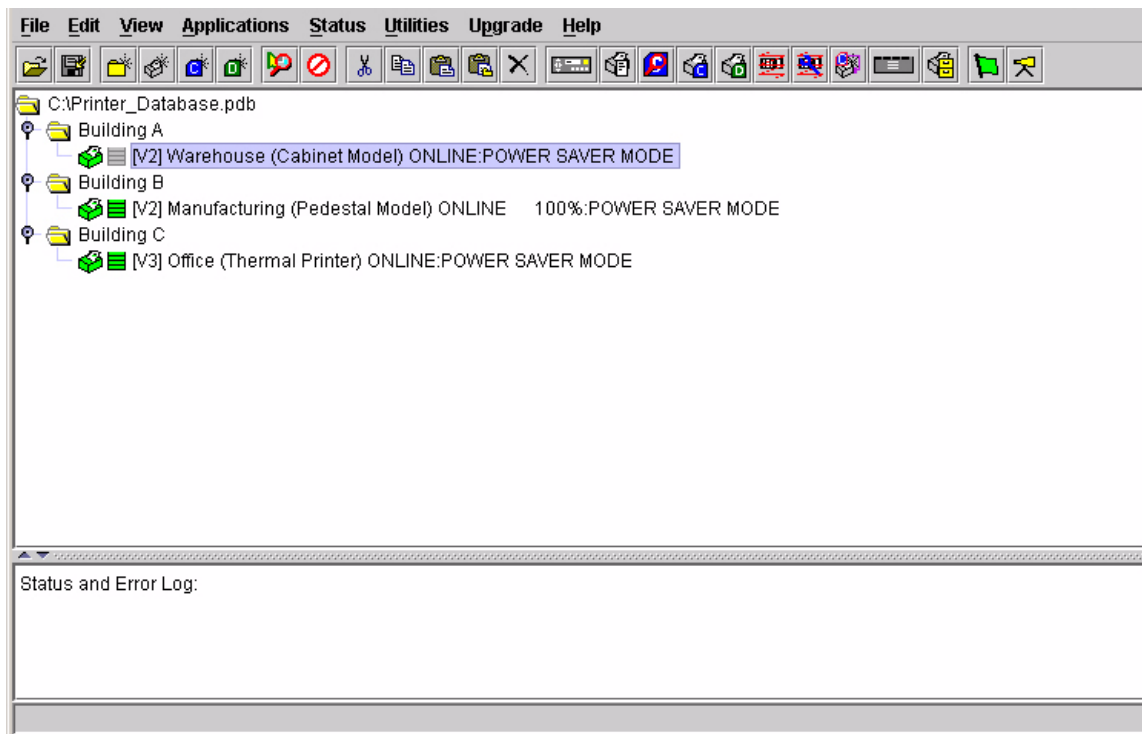

Figure 89. Selecting the Warehouse Printer
1. Select the **Warehouse** printer. See Figure 89.